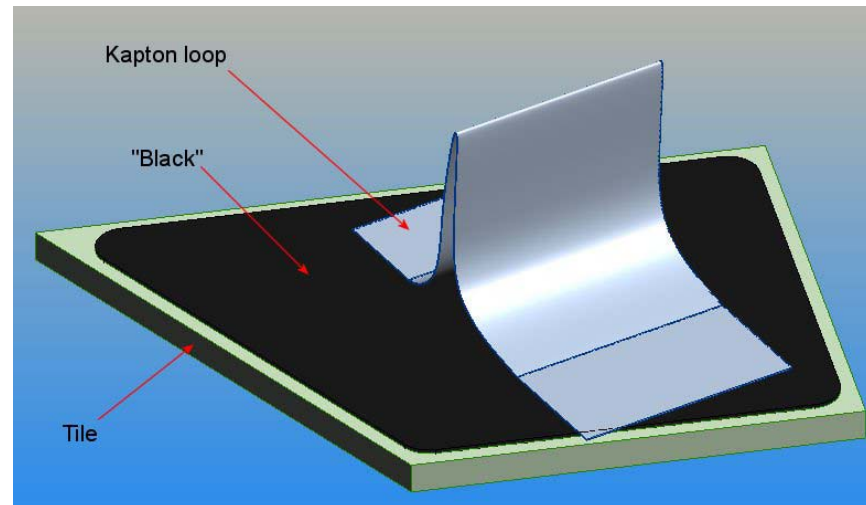

Figure 34 – Tile with “Kapton handle”
5. Apply a short length of Kapton or Aluminium tape with adhesive backing to the black area of the tile to construct a temporary handle. This is to ensure that the tile can be easily handled and positioned on the instrument when there is adhesive on the tile. See Figure 34. Repeat for each tile in the batch.